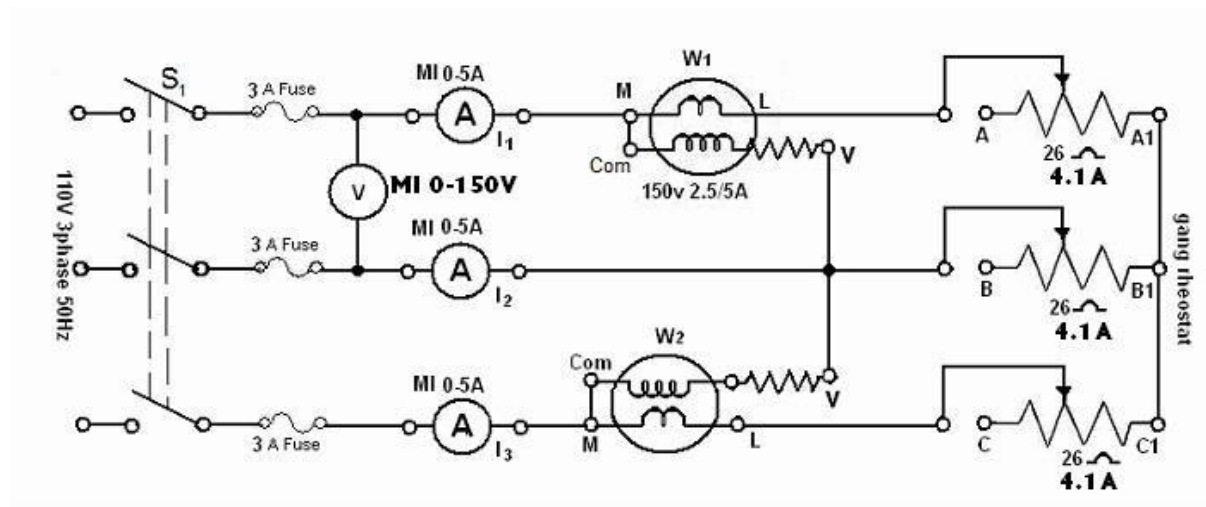

Fig. 1. Three phase power measurement circuit under balance condition
1. Connect the circuit as shown in Fig. 1.